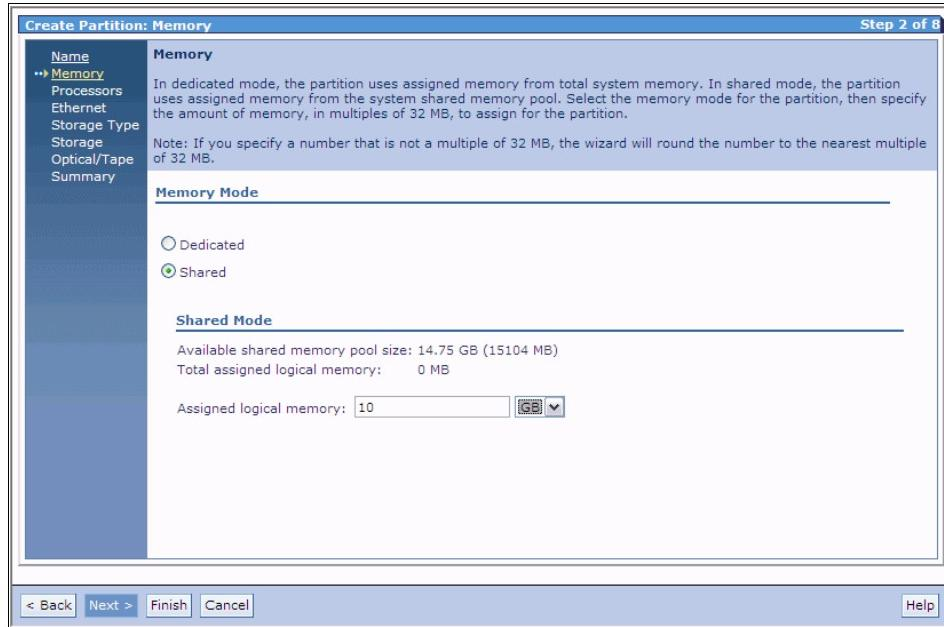

Figure 5-13 Selecting memory mode and amount for a shared memory partition
2. In the partition memory selection window shown in Figure 5-13 on page 196 the **Shared** option is now available and should be selected. The screen will refresh with shared mode memory information and an area to enter the desired amount of memory. The information display will show the total amount of shared memory in the pool and the cumulative total of assigned logical memory. The first shared memory LPAR created will indicate 0MB in this field. Enter the desired amount of logical memory in the box and click **Next**.